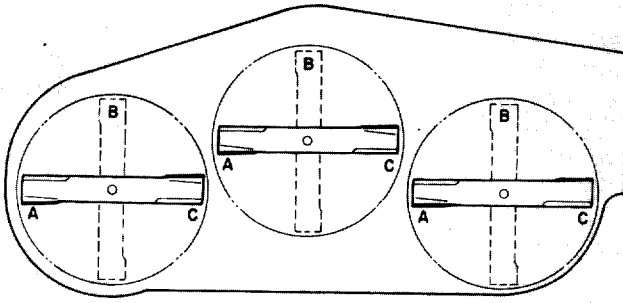
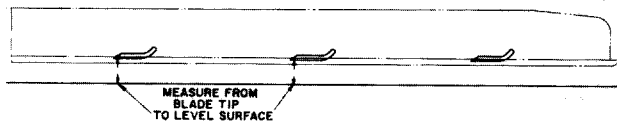

Figure 14
Figure 15
4. Position all three blades in the "A" position (Fig. 15) and measure from level surface to the bottom of the tip end of each blade (Fig. 15).
5. Note measurement attained at "A", rotate blades to "B" position (Fig. 14), measure distance of all blades to level surface and note dimensions (Fig. 15).
6. Rotate blades to "C" position, measure and note distance measured (Fig. 14, 15).
B. Transfer one thrust washer from top side of castor shaft to lower side, install castor assembly and compare blade height of all blades; refer to items 3 through 7. Continue adding thrust washers if height still does not meet requirements.
C. If cutting unit is operated at 2 to 4 in. (51 to 102 mm) height-of-cut, lower the high side of cutting unit. Remove lynch pin of castor at high end of unit and remove castor assembly (Fig. 14).
D. Transfer one thrust washer from lower side of castor shaft to top side, install assembly and compare blade height of all blades; refer to items 3 through 7. Repeat procedure if height still does not meet requirements.